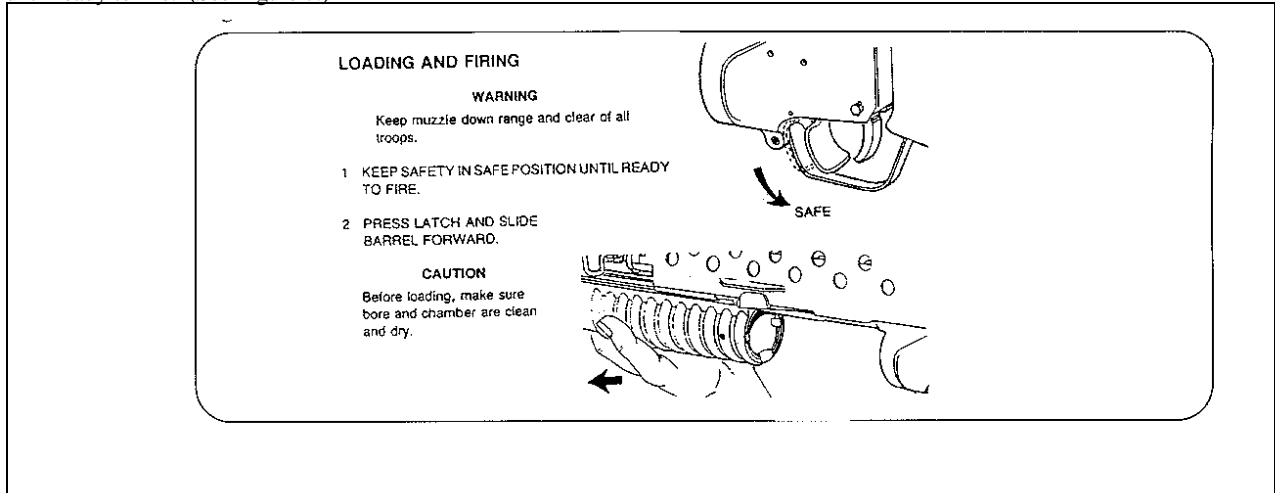

Figure 7. Safety
(1) Safety. Keep the muzzle down range and clear of all friendlies. Keep safety in "SAFE" position until ready to fire. (See Figure 7.)